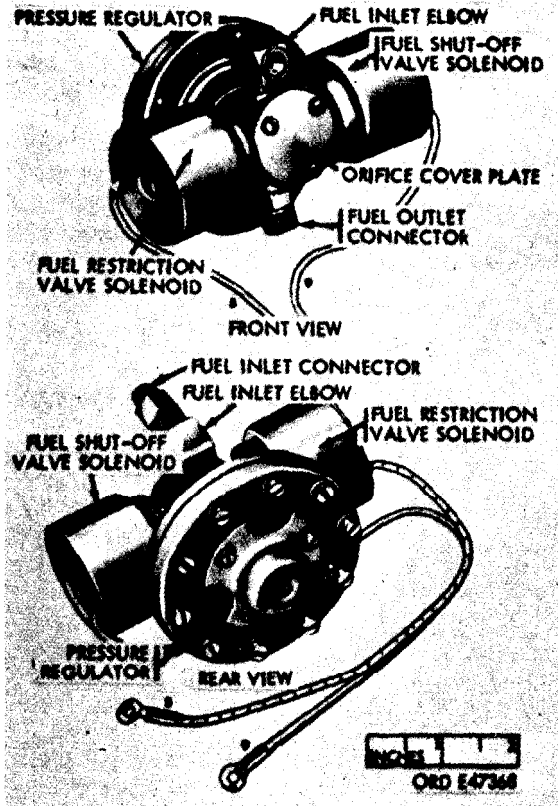

Figure 579. Fuel control valve
- (8) Fuel control valve (fig. 579). The fuel control valve consists of a valve body, pressure regulator, two solenoid-operated valves and an orifice or metering plate. Its purpose is to control and meter the quantity of fuel flowing into the heat exchanger. (Refer to TM 9-8662.)